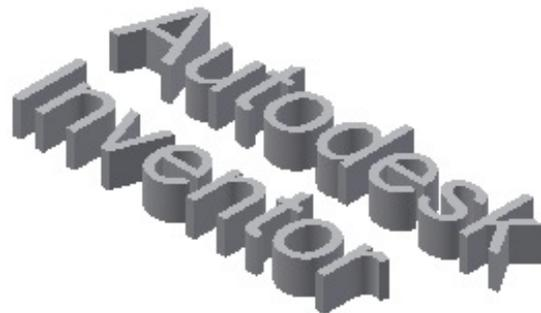

Figure 4-98 Text after extrusion
4. Specify **2.5** as the extrusion depth in the input edit box of the mini toolbar. Choose **OK** from the mini toolbar; the text is extruded to a distance of 2.5 mm, refer to Figure 4-98.
2. Choose the **Sketch Illustration** tool from this drop-down to give the extruded text a hand-drawn appearance. The final extruded text with the hand-drawn appearance is shown in Figure 4-98.